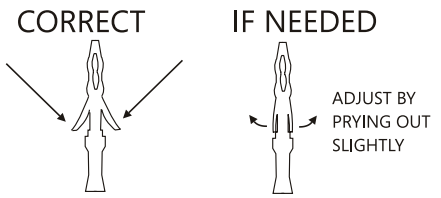

Figure 4-4
- Inspect the pin's retaining flanges. The flanges may have been deformed while being run through the vehicle. These are critical to secure the pins inside the connector. Adjust as needed. *See Figure 4-4.*